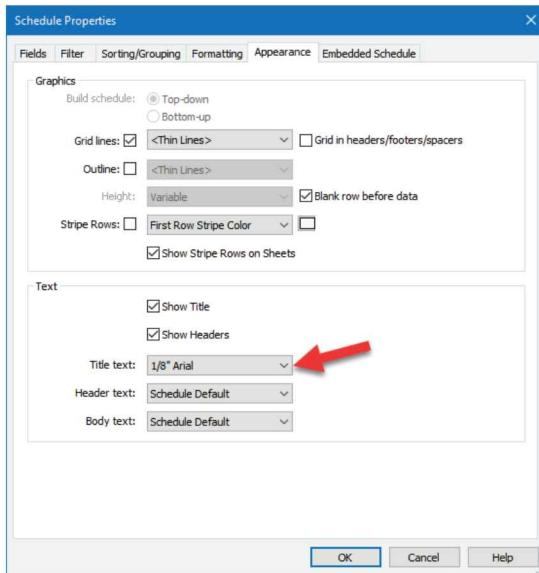

FIGURE 13-3.3
6. On the **Appearance** tab, set the *Title text* to **1/8" Arial** (Figure 13-3.3).